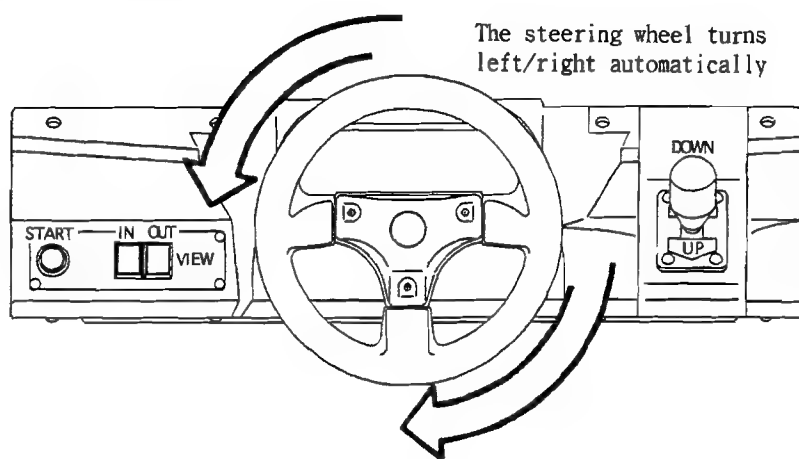

FIGURE 13: POWER-ON CHECK OF STEERING WHEEL
3. During the Power On Check, the steering wheel will turn left and right, then returns to the centered position (see Figure 13), allowing the control parameter values to be corrected (on the game board). Do not touch the steering wheel or other controls while the Power On Check is in progress or the steering wheel reaction during the game will be incorrect.